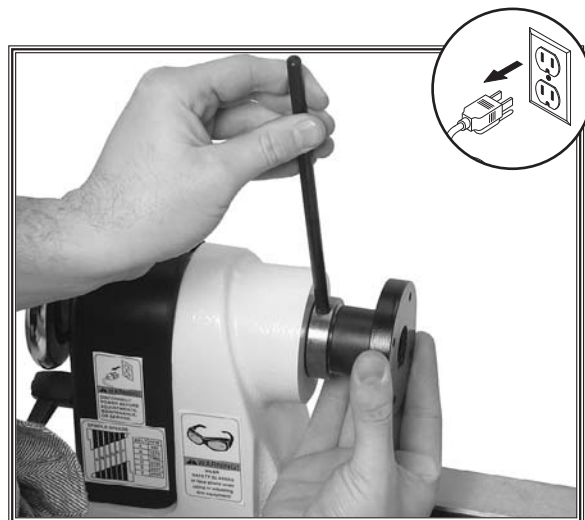

Figure 13. Tightening faceplate.
4. Using the knock-out bar, hand tighten the faceplate as shown in **Figure 13**.